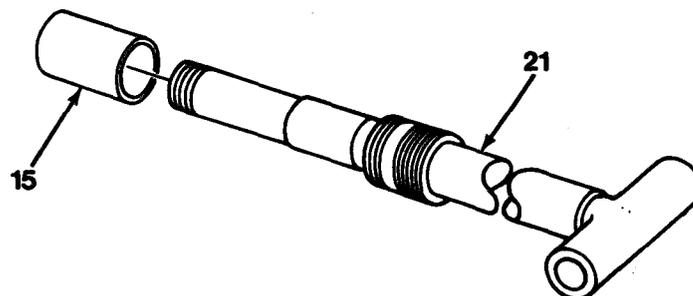

Figure 13-7
4. Install spacer (15) on rod assembly (21, Figure 13-7).